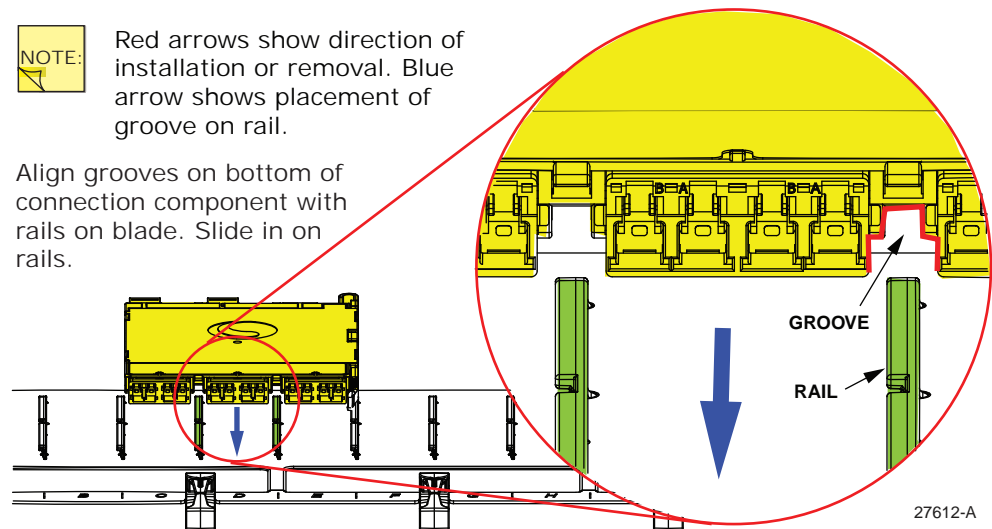

Figure 18. Positioning Connection Component on Rails
- Position the component on the rails as indicated in Figure 18.